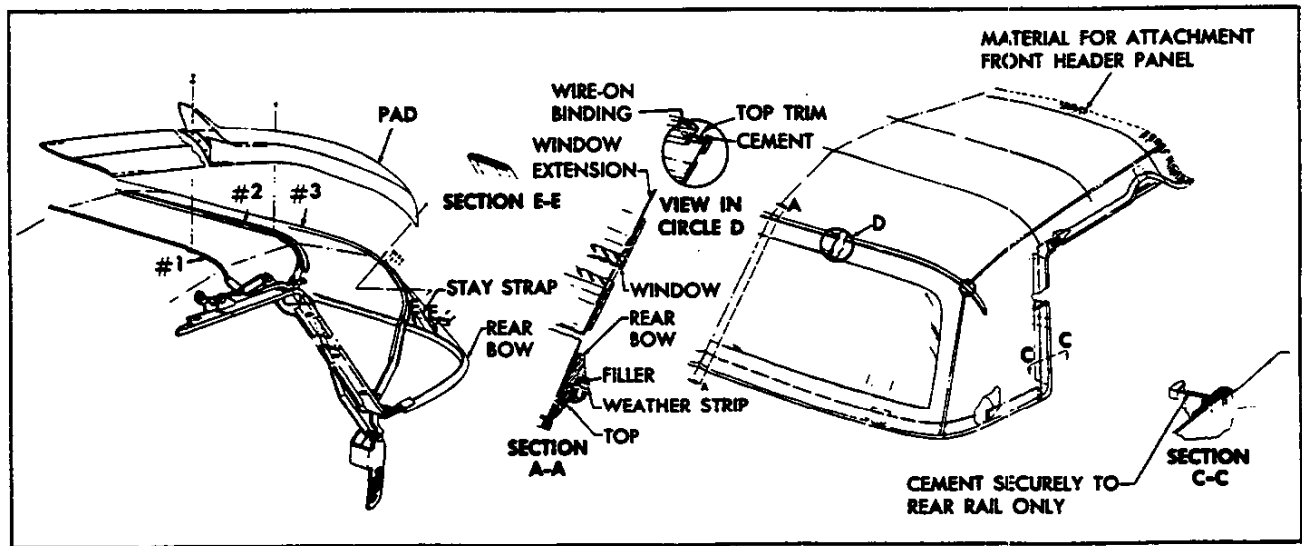

Fig. 64—Folding Top Trim Installation
complete. Figure 64 may be referred to for parts identifications. Lettered sections (i.e. Section A-A) referred to in the instructions may also be found in Figure 71. Note that the sections are illustrated as they would appear if the parts were cut through on the lettered lines on the top assembly and the cut surface exposed. Arrows indicate direction in which you would have to look in order to see the view shown.
8. Draw window extension up to #3 bow, aligning centering marks. Turn an ample amount of fabric under and tack to #3 bow. Apply neoprene trim cement, GM Part #3695016 or equivalent, to area shown in View D of Figure 64. Follow directions on package.
- as shown in Figure 71 and View D of Figure 64. Install binding caps.